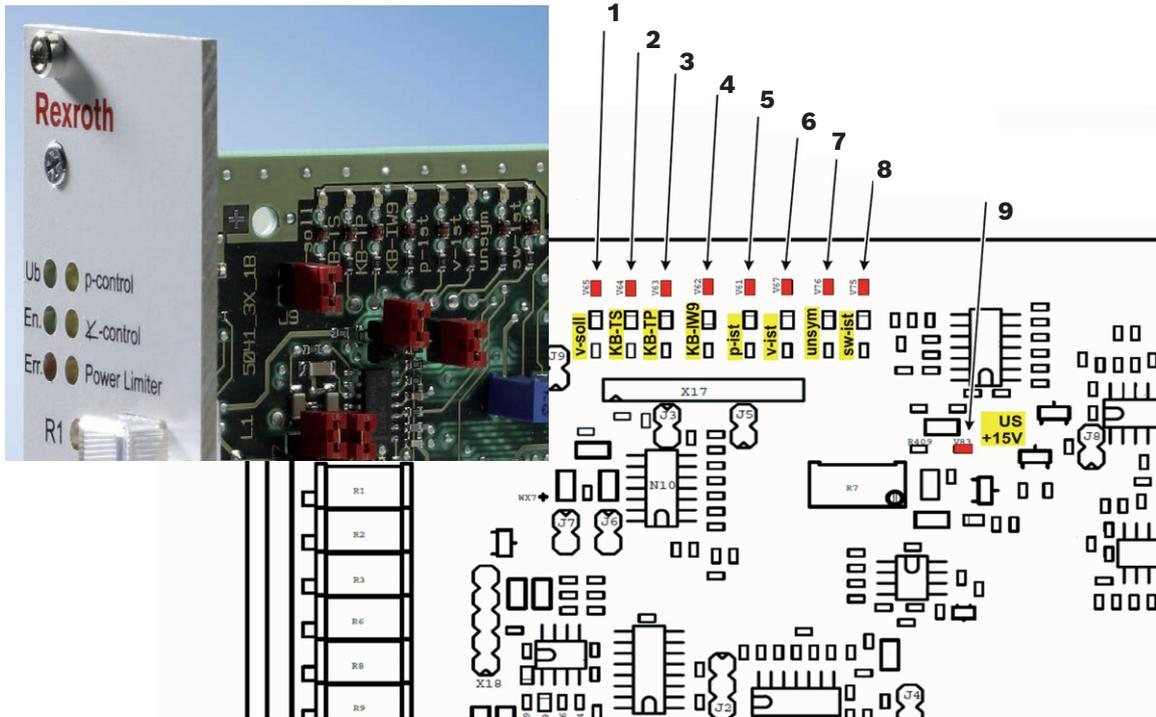

Fig. 36: Fault signals on the printed-circuit board
- Monitoring of internal voltage +15 V for values less than 10 V (fault is signaled by LED, see Fig. 36, item 9: US +15 V)